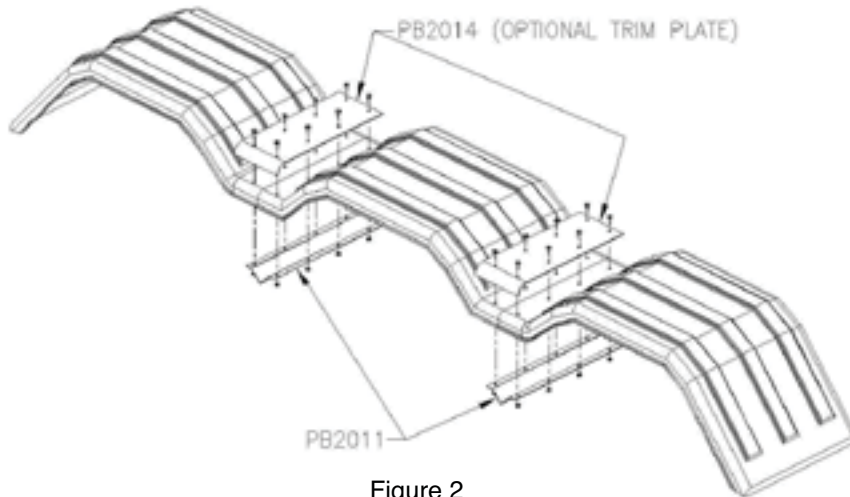

Figure 2
- C. Using the 1/4" x 3/4" long Phillips truss head bolts, attach the fenders, trim plate (if purchased) and center bracket together. Make sure the center bracket V is facing down. Tighten down the bolts using the supplied lock nuts. **DO NOT OVER TIGHTEN** the bolts. Start from the center and work towards the outside. See Figure 2 (next page).